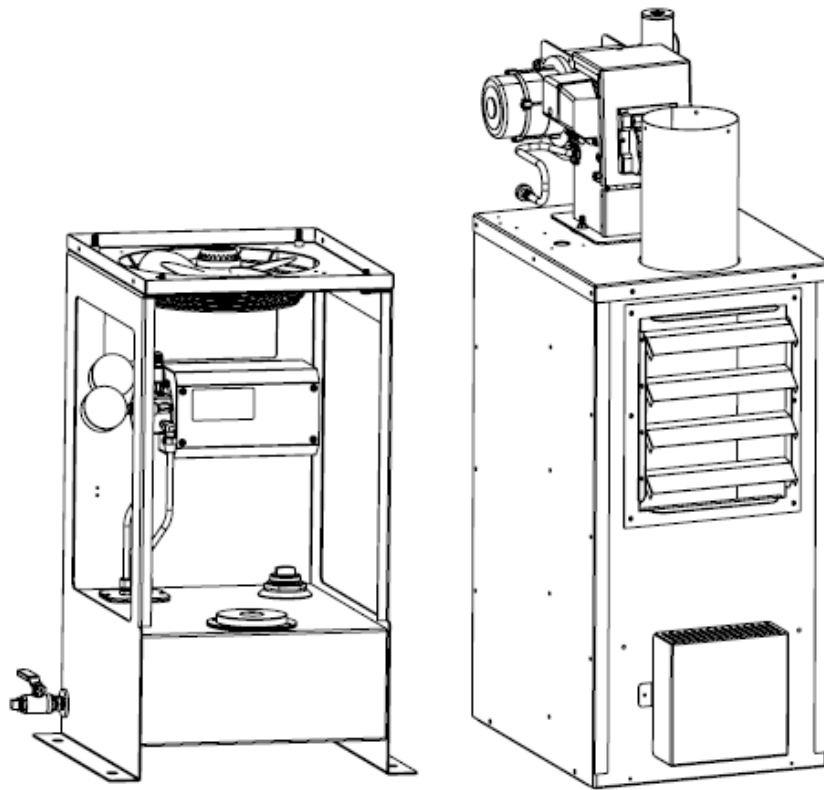

Figure 2.1 - Pre-Assembled Sections
1. Unpackage and remove the heater components from the skid. The heater itself is in two large sections as shown in Figure 2.1 below: